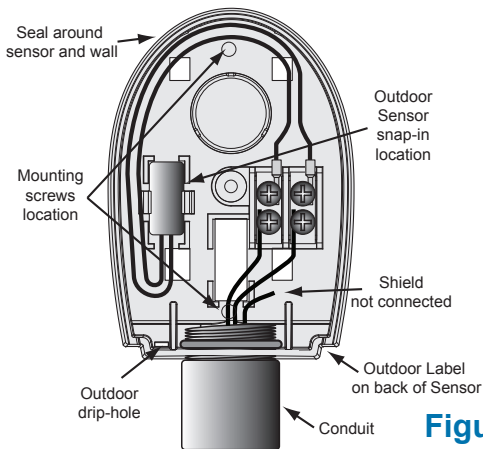

Figure 2
- The sensor should be secured to the base as shown in "Figure 2".